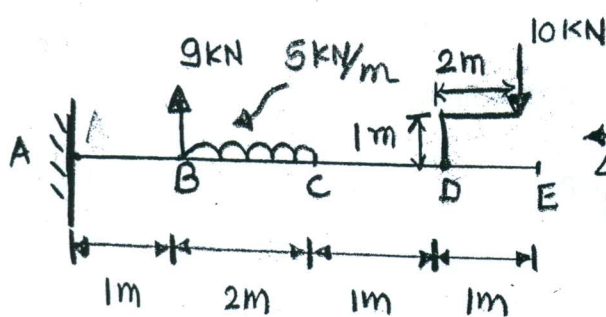

Fig. 7
Q.3 (A) Determine support reactions for a beam shown in Fig.7. 05